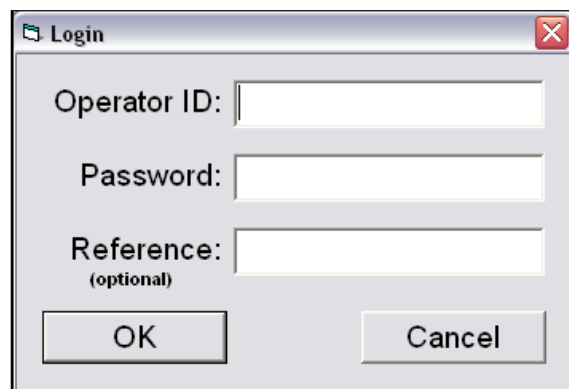

Figure 33: Login box
12. Click on any tab at the top of the screen. The Login box appears (Figure 33).